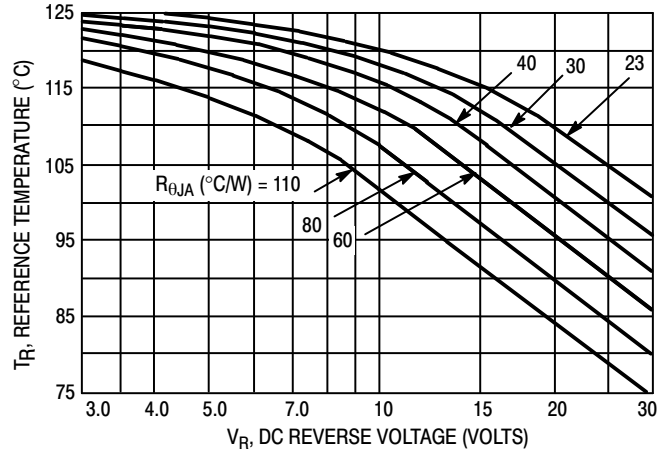

Figure 2. Maximum Reference Temperature 1N5818
Step 2. Find  $T_R$  from Figure 2. Read  $T_R = 109^\circ\text{C}$